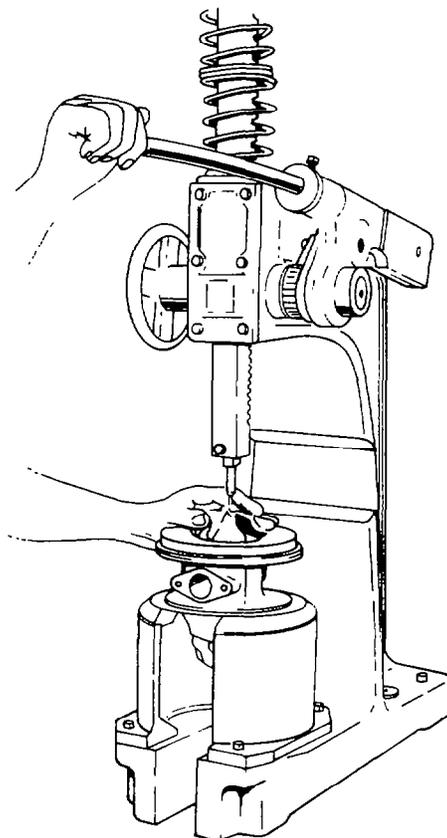

Fig. 138 — Removing Turbine Wheel
- e. Place the centre housing assembly (item 17) in the disassembly tool J-29680, align the assembly in the press, then operate the press to remove the compressor wheel (see fig. 138). Catch the turbine wheel (item 21) and shroud (item 19) as it drops from the assembly.